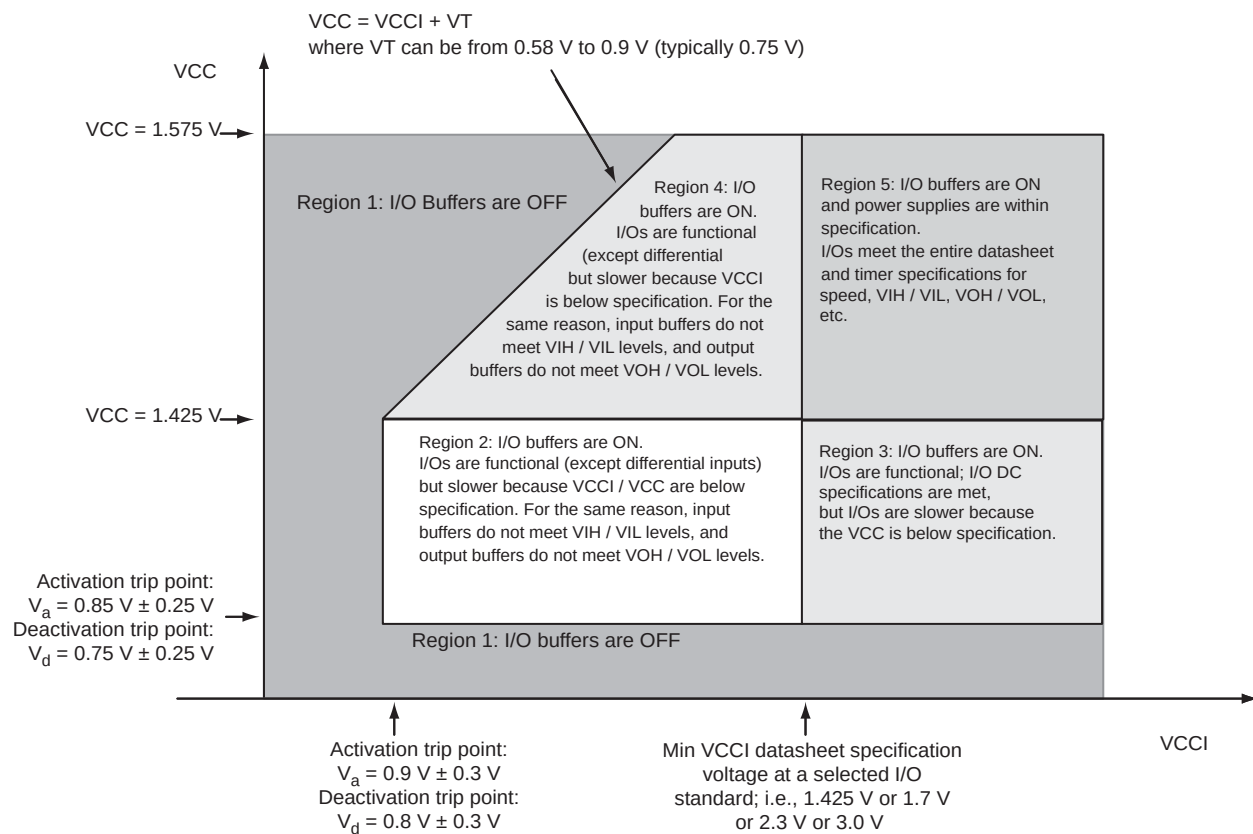

Figure 2-2 • Devices Operating at 1.5 V Core – I/O State as a Function of VCCI and VCC Voltage Levels
Sophisticated power-up management circuitry is designed into every ProASIC®3 device. These circuits ensure easy transition from the powered-off state to the powered-up state of the device. The many different supplies can power up in any sequence with minimized current spikes or surges. In addition, the I/O will be in a known state through the power-up sequence. The basic principle is shown in Figure 2-2 on page 2-5 and Figure 2-3 on page 2-6.
1. VCC and VCCI are above the minimum specified trip points (Figure 2-2 on page 2-5 and Figure 2-3 on page 2-6).
Microsemi recommends using monotonic power supplies or voltage regulators to ensure proper power-up behavior. Power ramp-up should be monotonic, at least until VCC and VCCPLX exceed brownout activation levels. The VCC activation level is specified as 1.1 V worst-case (see Figure 2-2 and Figure 2-3 on page 2-6 for more details).